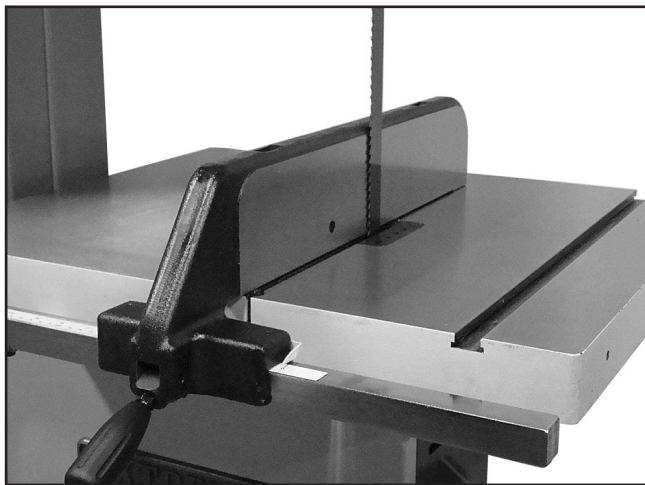

Figure 8. Fence flush with blade.
2. Place the fence flush against the bandsaw blade (**Figure 8**).